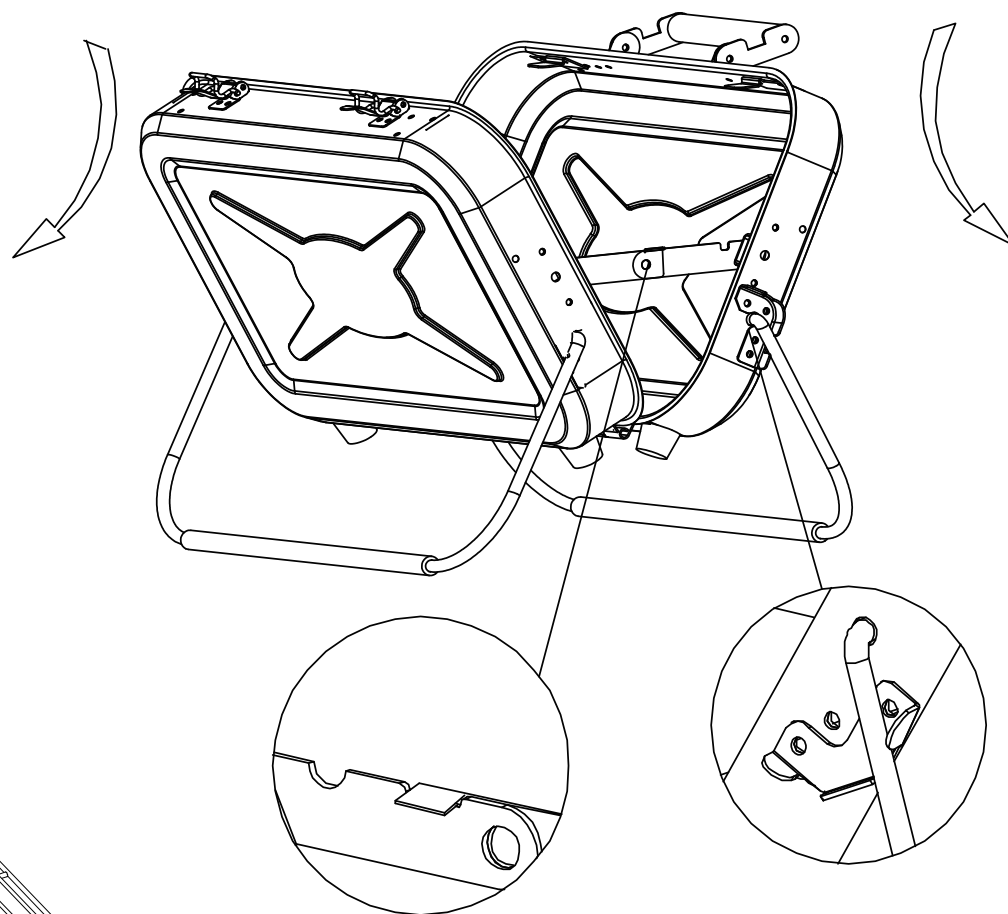

FIG5
- (3) Extend and level the stove body as shown in Fig 5